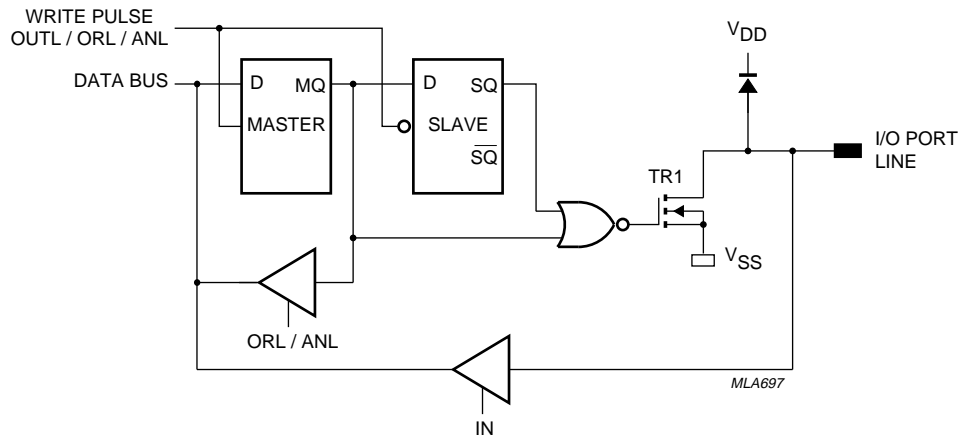

Fig.12 Open drain output.
- Option 2 **Open-drain**; quasi-bidirectional I/O with only an n-channel open drain output. Application as an output requires connection of an external pull-up resistor (see Fig.12). If unused, an option 2 output should be tied to  $V_{SS}$ . This keeps the input path from floating, thereby avoiding undesirable current flow through input stages.